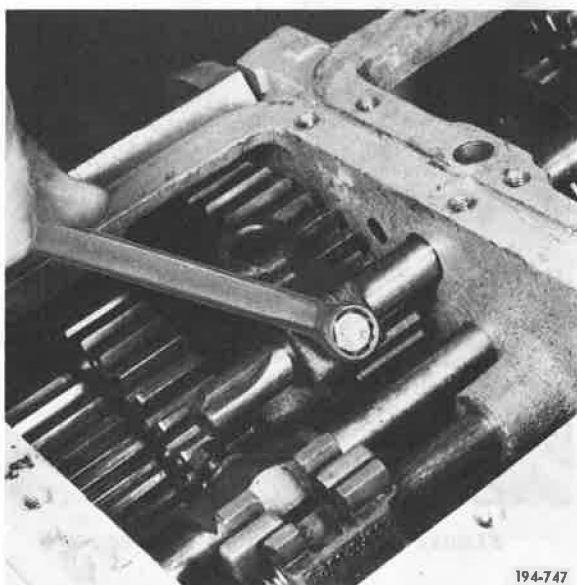

Figure 19. Removing Setscrew
17. (Rearward controls only) Remove front compound shifter setscrew. See Figure 19.